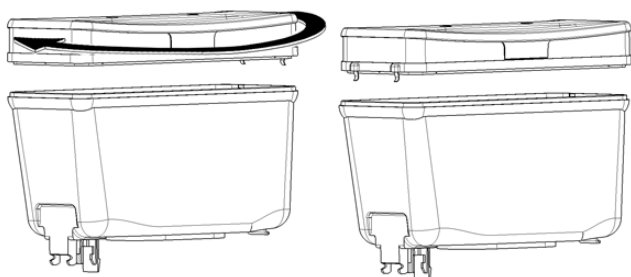

figure 1
- 9** On machine equipped with lighted top cover turn the cover for 180 degrees to switch light off. (see figure 1)